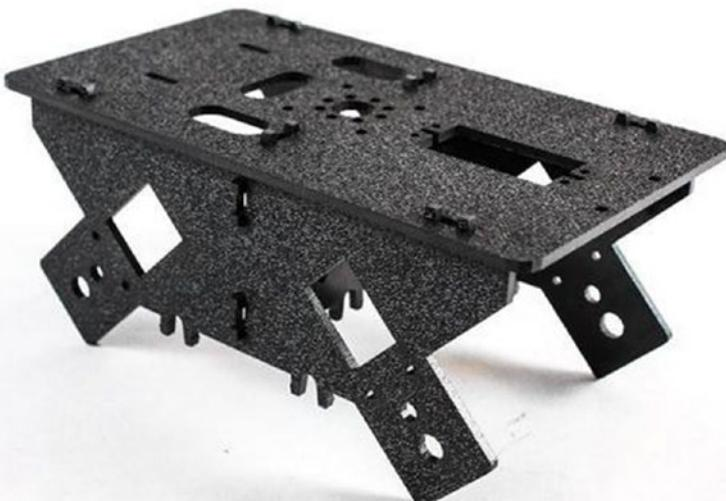

Figure 7-3. Top plate added
3. Snap the top plate to the assembly. There are six sets of tabs that snap to the top plate (see Figure 7-3).